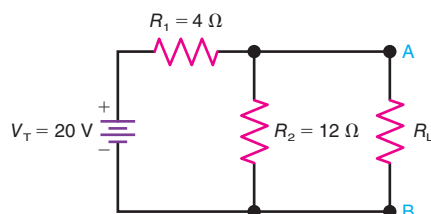

Figure 8-19
8.10 In Fig. 8-19, draw the Thevenin equivalent circuit with respect to terminals A and B (mentally remove R_L).
8.11 In Fig. 8-19, use the Thevenin equivalent circuit to calculate I_L and V_L for the following values of R_L ; $R_L = 3\ \Omega$ and $R_L = 12\ \Omega$.